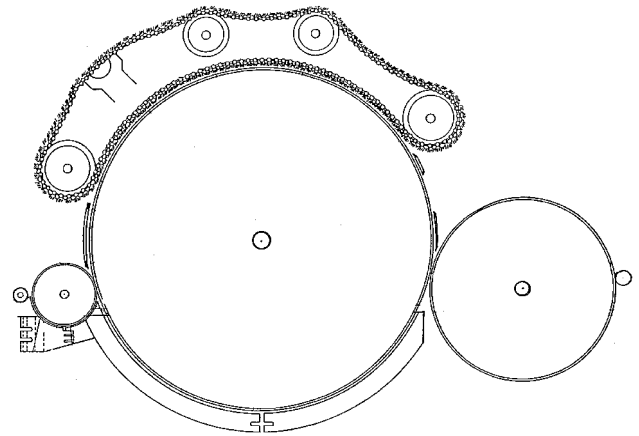

Figure 8. Textile Cotton Card
*The Textile Cotton Card.* This card is equipped with a feed roll/feed plate configuration, one or more lickerins, flats above the cylinder, and a doffer (Figure 8). The feed roll compresses the fiber, which is then raked by the lickerin to provide maximum opening. A first lickerin may feed as many as two other lickerins, each with a mote knife or air wash to remove large cotton waste. Revolving flats positioned above the cylinder parallelize fibers and open them to extract short fibers, neps, and small trash, as well as prepare the fibers for web formation on the doffer. The fibers then exit the card as a clean web condensed to sliver that is ready for drafting and spinning operations. The textile cotton card excels in waste expulsion, intense above-cylinder carding, fiber individualization, and handling short fibers, but because of the narrow working width of the card (40"), as many as 8 cards in a line in tandem are required to produce the desired product weight.